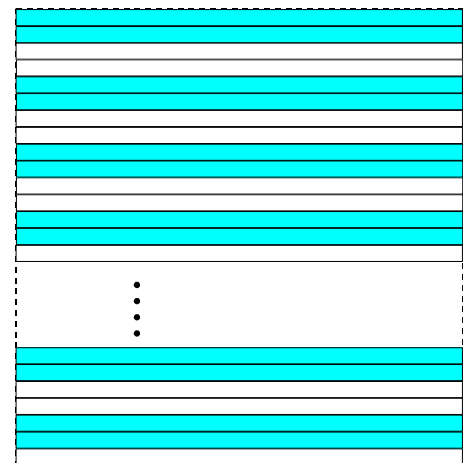

Fig. 120: Decimation of 2 (Color Cameras)
- 2 for color cameras: only every second pair of rows of the acquired frame will be transmitted out of the camera (Figure 120).